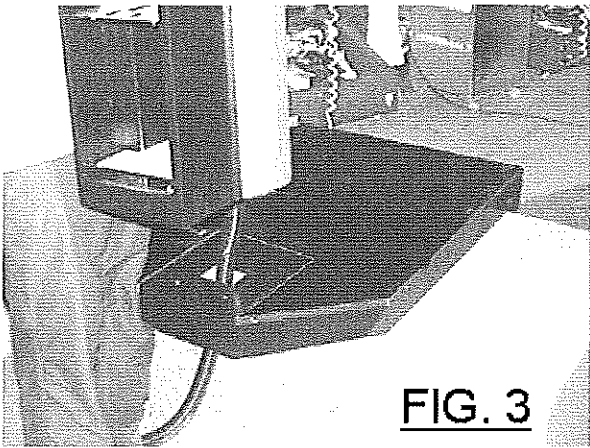
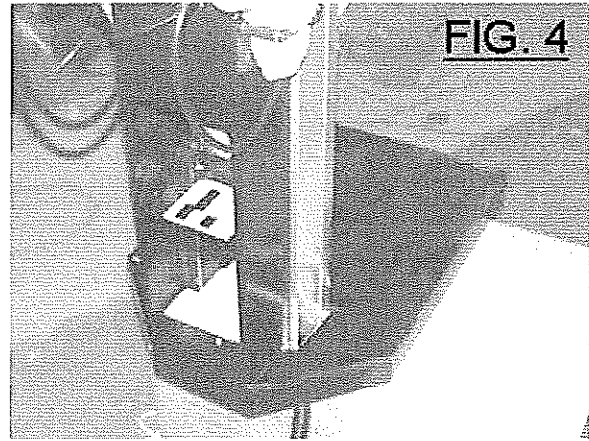

FIG. 3
FIG. 4
6. Offer the Coin Tower up onto the Floor (Fig 3) ensuring that the Flexipipe continues through the access hole (Fig 4).